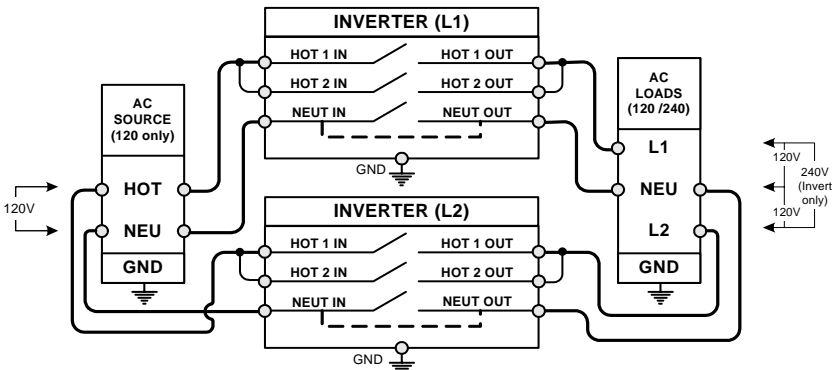

Figure 8, Single In/Single Out (30A with 120VAC only source)
Figure 8, Single In/Single Out (30A with 120VAC only source) .....	10
- **Single-phase (120VAC only)** - This AC source has one 120VAC line, one neutral and a ground. The 120VAC line is fed to both the HOT 1 IN's of each inverter and when in charge mode, it will pass thru to the HOT 1 OUT's of each inverter. The incoming power is shared with the charger, but since the two lines come from the same source (unlike the split-phase type), the two lines are in-phase and the voltage between the HOT 1 OUT lines will be zero. While this AC source is used to charge your batteries, you must remember that you **will not be** able to power any 240VAC loads (voltage from L1 to L2 will be zero). Once the AC source is disconnected and the inverters again start inverting, you can reconnect your 240VAC loads. See figures 8 and 10.